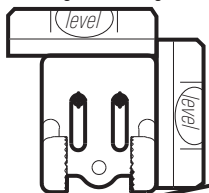
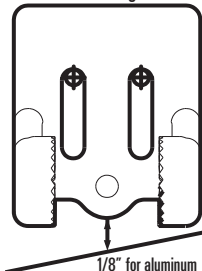

Figure 12
Figure 13
2. Hold the mounting bracket against the transom of the boat in the location you have selected (Figure 12). Align the bracket horizontally, using the level. Make sure that the lower screw hole protrusion does not protrude past the bottom of the hull, and there is at least 1/4" clearance between the bottom of the bracket and the bottom of the transom for fiberglass boats, and 1/8" clearance for aluminum boats (Figure 13).